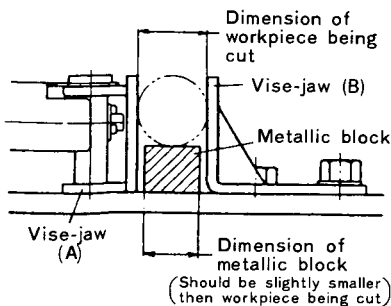

Fig. 11
3. How to use Metallic Block (Fig. 11)